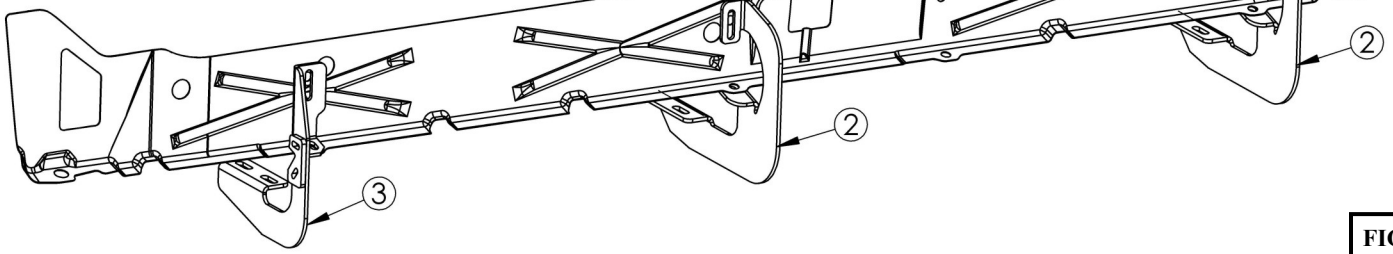

FIGURE 4
2. Attach mounting brackets as shown. **See Figures 4, 5, 6, 7, 11 and 12.** For late model (2011-2014) diesel trucks SEE PG. 5 for the front passenger side mounting bracket.